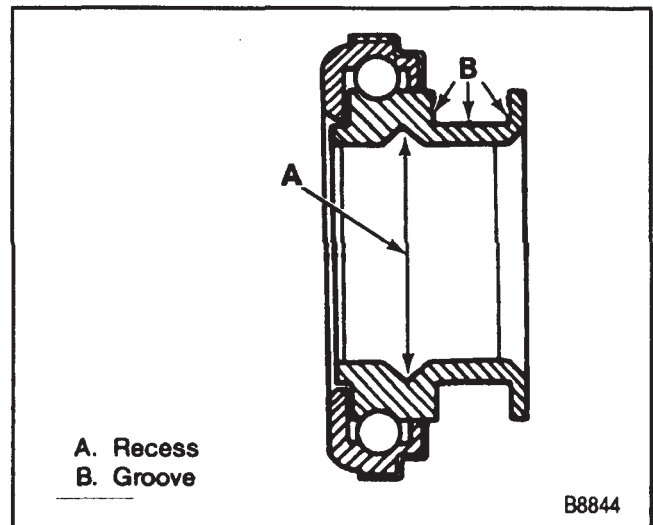

Figure 10—Release Bearing
- Release bearing (162) and clutch fork (167).
- Pack the inside recess (A) and coat the outside groove (B) of the release bearing with high temperature (wheel-bearing) grease (figure 10).
- Flywheel housing (164) and bolts (165).